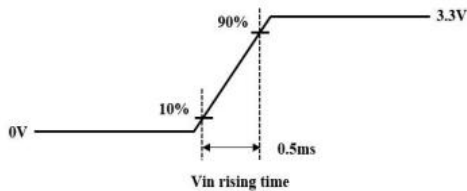

Figure 4. Inrush Measure Condition
2. Measure condition (Figure 4)